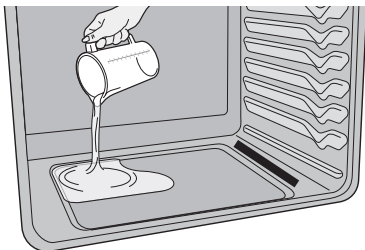

Figure 21: Add 1 cup of tap water
3. Pour 1 cup of tap water onto the oven bottom. (Figure 21) Close oven door